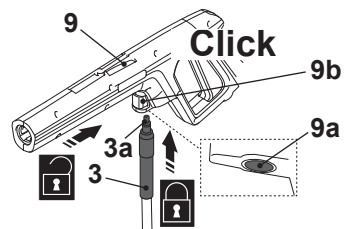

Fig. 2
- Insert the connector (3a) of the pressure hose (3) into the hose connection port (9a) of the spray gun (9). Ensure it snaps in place (Fig. 2). Press the release button (9b) to unlock if necessary.